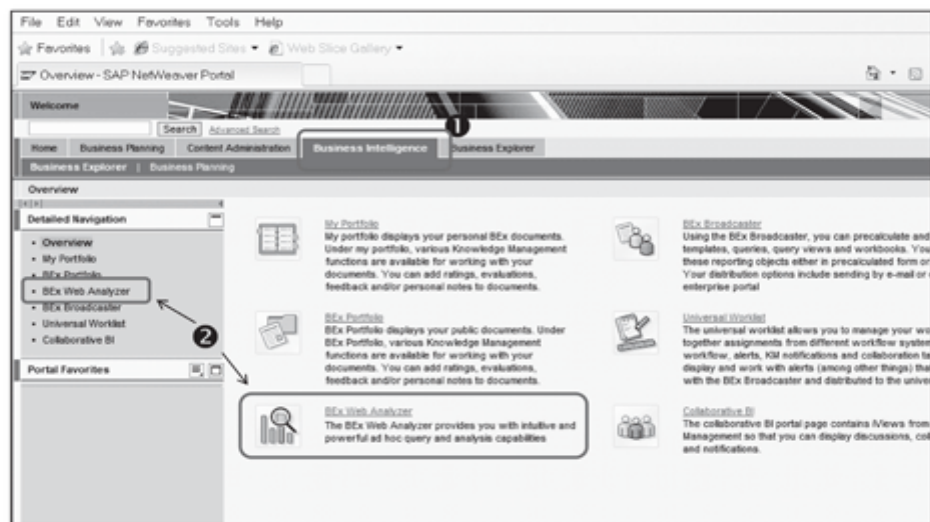

Figure 10.40 Accessing BEx Web Analyzer
You can access the BEx web analyzer tool either through a portal or directly through the web browser. The standard SAP Business Intelligence portal role (❶ of Figure 10.40) includes BEx web analyzer (❷). Click on the links to open the BEx web analyzer.